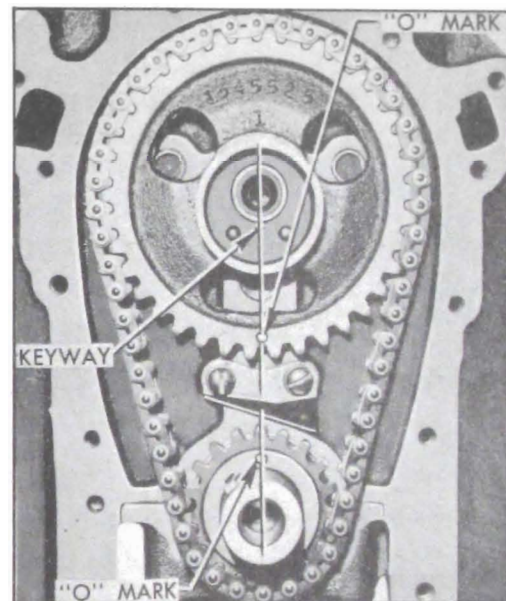

Figure 2-26—Timing Chain and Sprockets Properly Installed
6. Raise weight arm to allow the lifter plunger to come up to its retainer, then lower the arm to rest on the ram roller. As the pointer starts moving upward start rotating the fluid cup by turning the handle one revolution every two seconds. See figure 2-26.
7. Use a stop watch to check the time required for the pointer to move from the lower to the upper mark on scale where marked "BUICK V-8." The cup must be rotated during this test. See figure 2-26.
4. If there has been doubt about the valve timing, turn crankshaft until the camshaft sprocket keyway is straight down toward the crankshaft and the "0" timing marks on both sprockets are toward each other and in line with shaft centers. See figure 2-26.
7. When ready to install timing chain, turn crankshaft until Nos. 1 and 4 pistons are on top dead center. Turn camshaft so that the sprocket key points straight down toward crankshaft. See figure 2-26.
stamped on front faces of sprockets are nearest each other and aligned between the sprocket hubs. Install sprockets with chain on the two shafts. See figure 2-26.